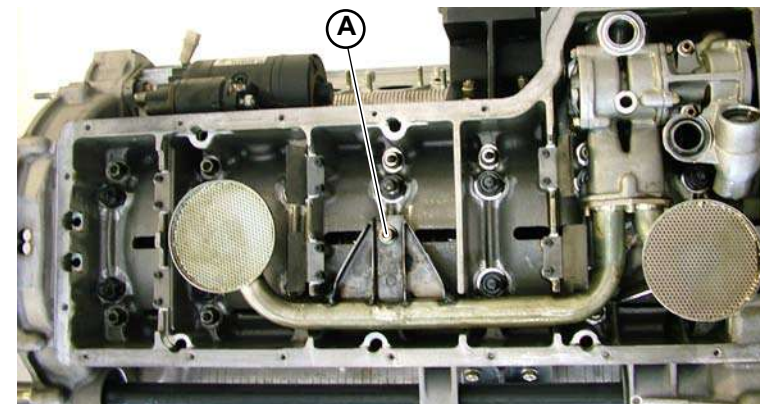

Fig.2
1. Install the oil draft pipe on the pump inserting a new gasket (**A-Fig.2**); tighten by hand as necessary.